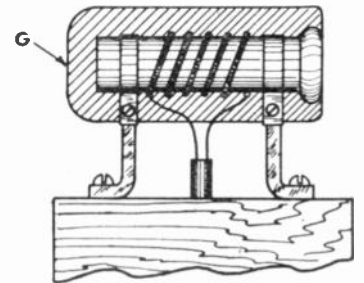

FIG. 4
Now cover the element and tube with a coat of asbestos plaster (G), about one inch thick, Fig. 4. The plaster will hold the element and connections in place and will also retain the heat.